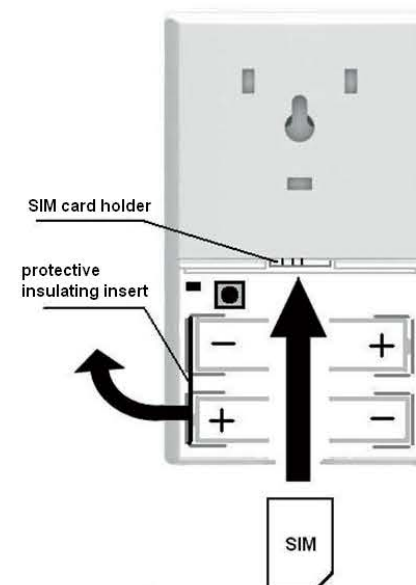

fig. 7 SIM card installation
1. Install the SIM card as shown in fig. 7
2. Remove the protective insulating insert from the battery contacts as shown in fig. 7. If the protective insulating insert was previously removed, then remove the battery, wait 2 minutes, then re-insert the batteries making sure to observe proper polarity.
1. Confirm that the SIM card is installed as shown in fig.7.
2. Remove the protective insulating insert from the battery contacts as shown in fig. 7 or install batteries observing correct polarity in the event they were previously removed.